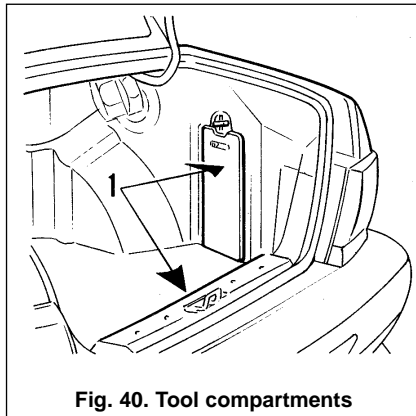
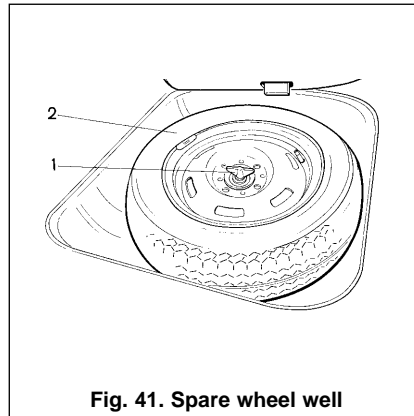

Fig. 40. Tool compartments
Fig. 41. Spare wheel well
- remove covers 1 (Fig. 40) or mat and take out a pump, jack, tools and replacement wheel. Spare wheel 2 (Fig. 41) is located in a well of the boot. Remove the mat, then the cover and unscrew bolt 1 to take out the wheel.